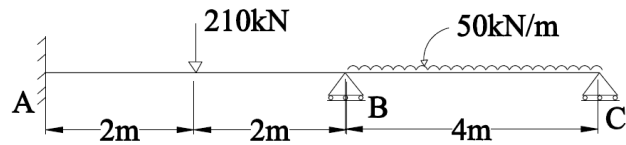

Fig.4
2. From the Fig.4, analyse the continuous beam by the Slope-deflection method. The supports B and C settle by 9 mm and 3 mm respectively.  $EI = 30000kN m^2$ .